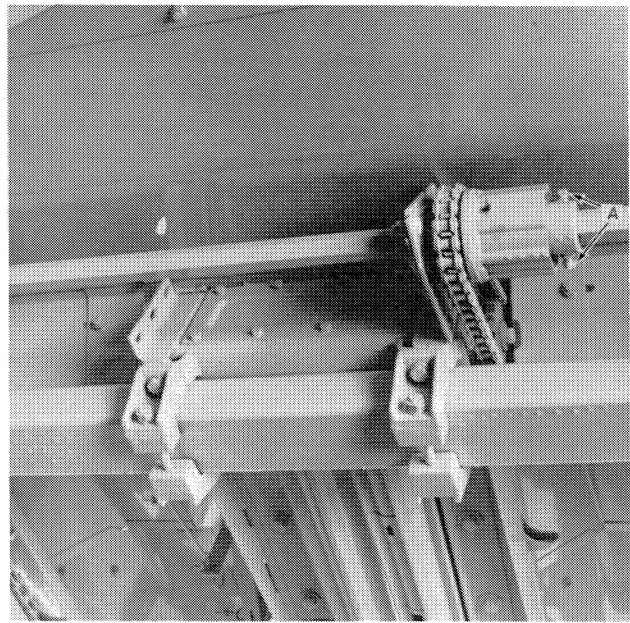

Figure 2-37
10. Position the clutches, bearings, and flangettes in alignment with each row unit. Use a straightedge to align the sprockets. Tighten setscrews, A, Figure 2-37, on the clutches.